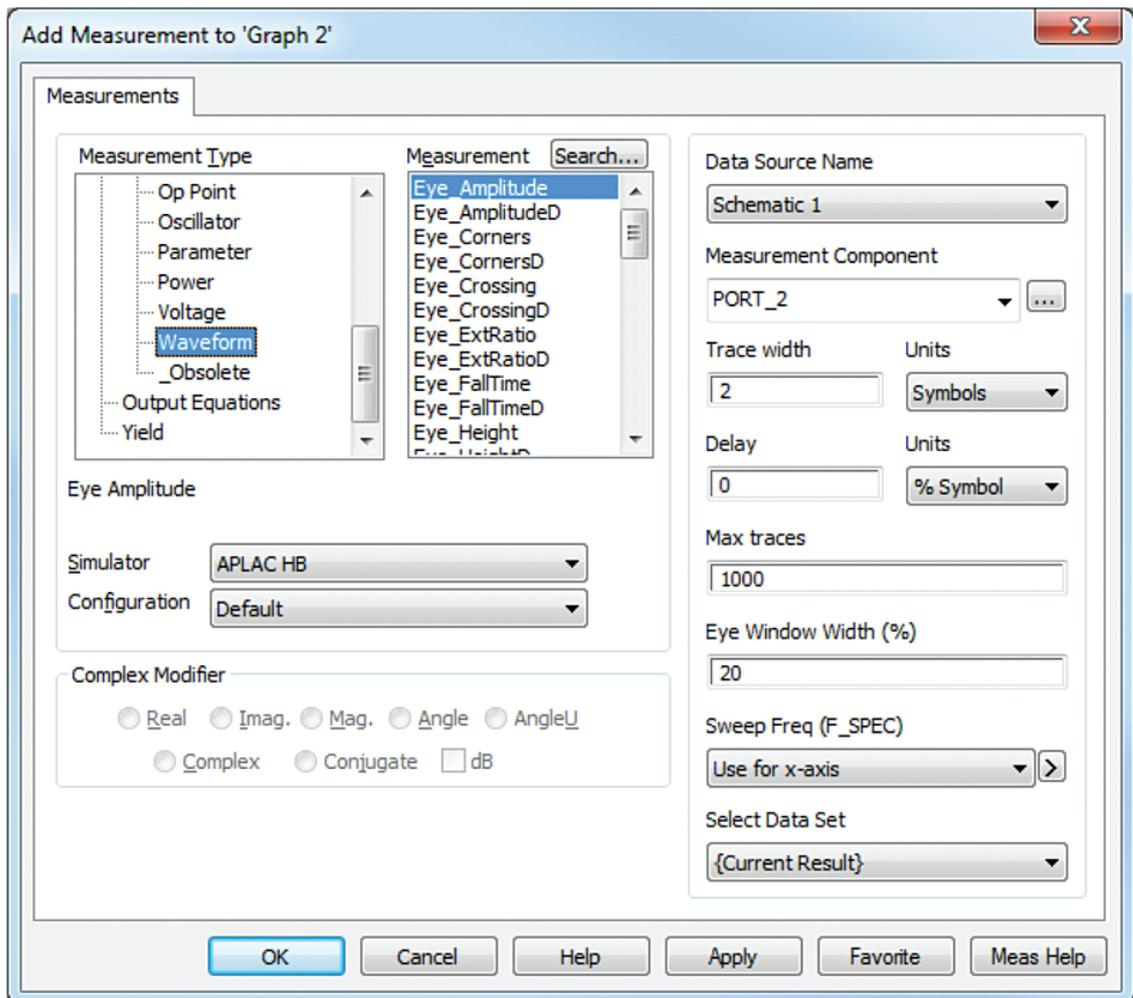

Figure 7: Add Tabular Graph Measurements
16. Configure the new measurement as shown in Figure 7.